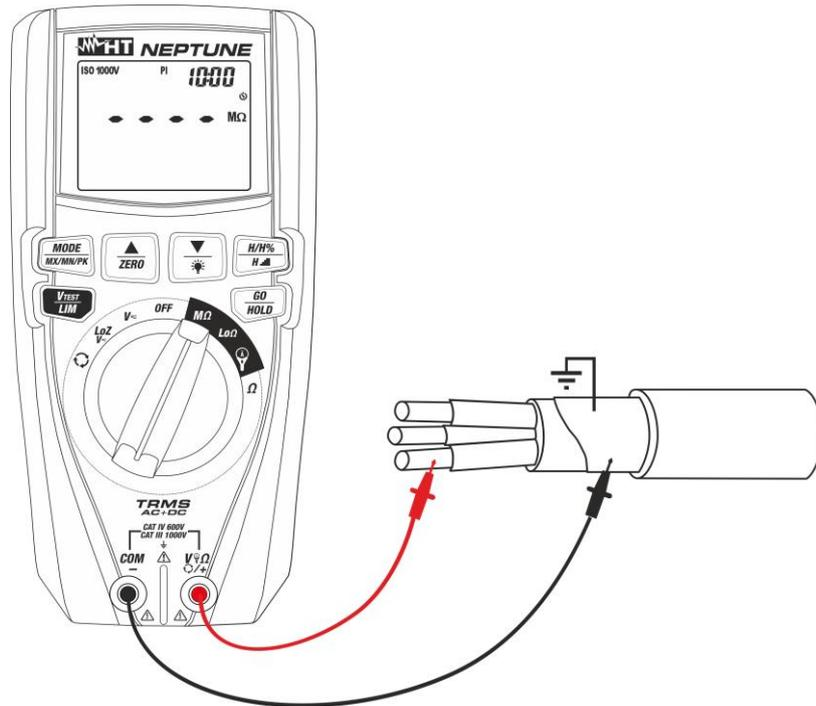

Fig. 22: Use of the instrument for insulation resistance measurement in PI mode
6. Insert the red lead into input terminal **VΩΩ/+** and the black lead into input terminal **COM/-** and possible alligator clips, and connect the instrument to the appliance to be tested (see Fig. 22).